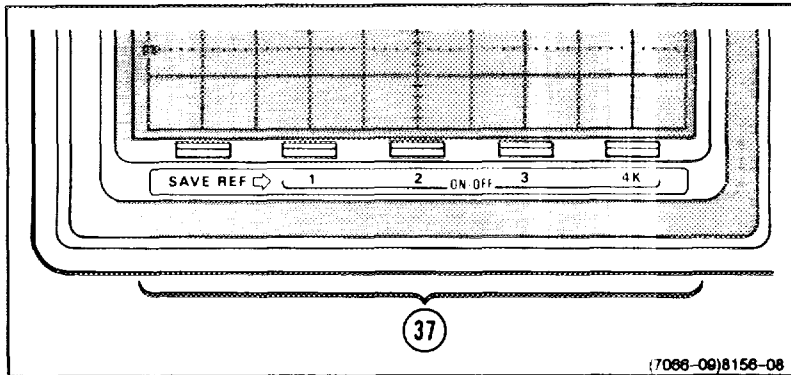

Figure 3-6. Save reference/menu items select buttons.
Refer to Figure 3-6 for location of item 37.